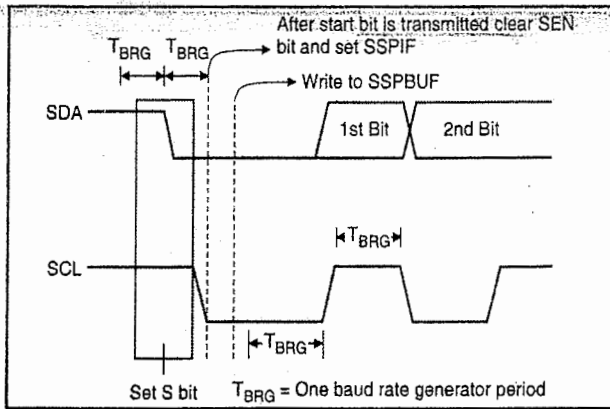

Fig. 12.10.7 : Start condition timing
- Fig. 12.10.7 shows the start condition timing.